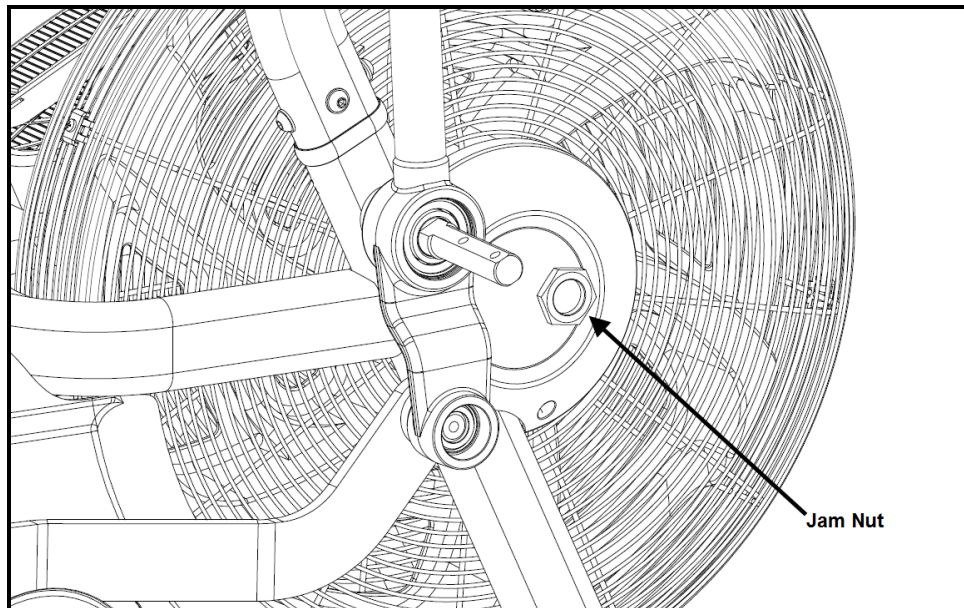

Fig. 5
- With a 24mm open end wrench, remove the jam nut securing the arm to the pivot shaft (Fig. 5).